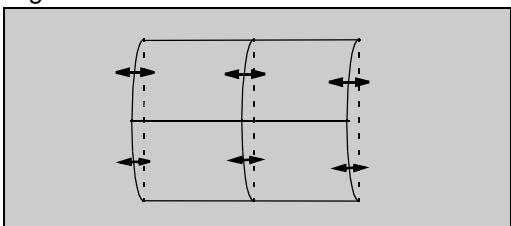

Figure 41. Corner Adjustment
- Adjust by pressing VOL right-left (See Figure 41).
32. Adjust corners (See Figure 41)